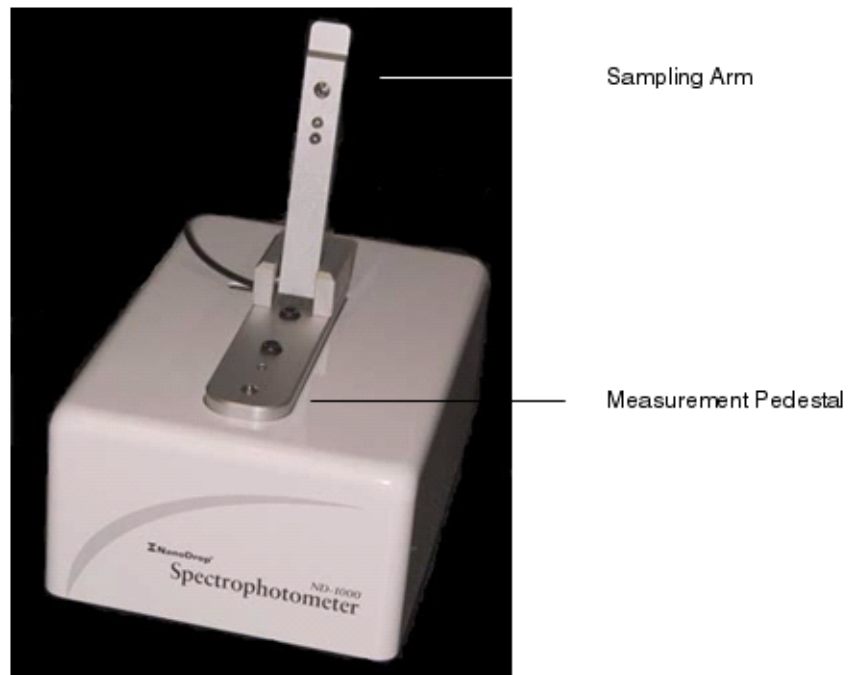

Figure 41 Components of the NanoDrop® ND-1000 Spectrophotometer.
4. Lift the sampling arm and load 2 μL of nuclease-free water onto the lower measurement pedestal and lower the sampling arm (see Figure 41 on page 99).